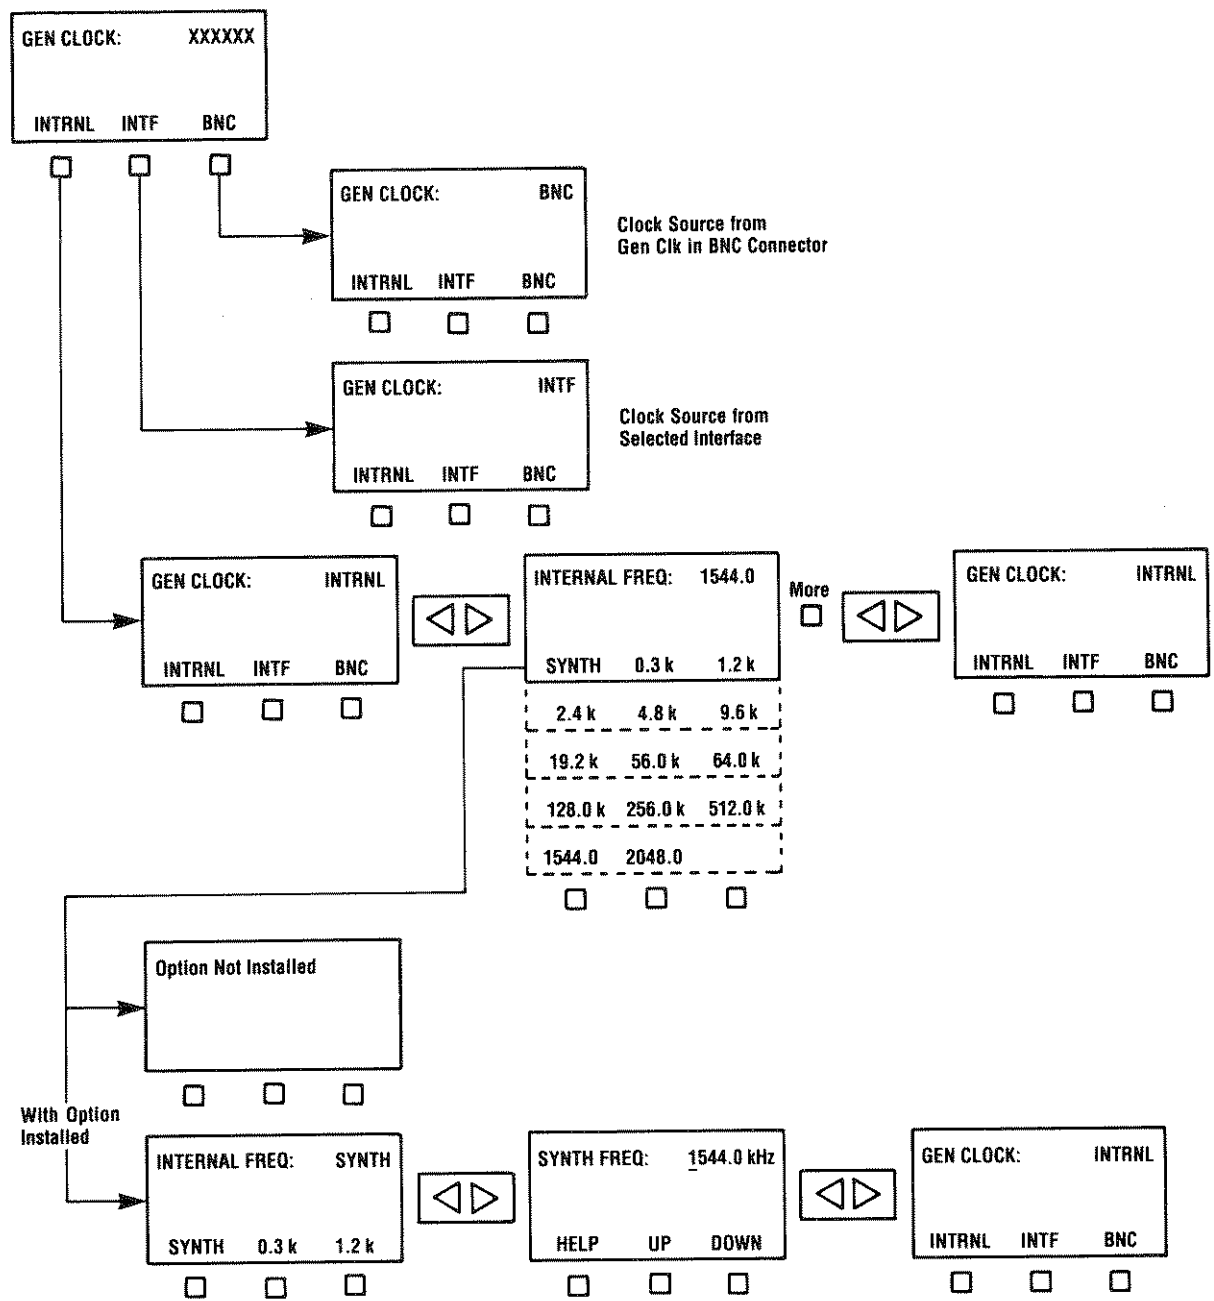

Figure 4-9
The GENERATOR CLOCK SETUP category, shown in Figure 4-9, controls the timing source and frequency of the mainframe generator clock. The generator clock is used as the timing source for transmitting test patterns at the required network data rate.
To select a timing source, select the GENERATOR CLOCK category with the SETUP CATEGORY switch (GENERATOR CLOCK LED illuminates), then press the appropriate softkey (see Figure 4-9). The selected timing source label appears in the display selection field.
The standard internal generator clock provides a set of fixed frequencies that are selectable through the INTERNAL FREQ menu (see Figure 4-9). The fixed frequencies, displayed in kHz, include: 300, 1200, 2400, 4800, and 9600 Hz; 19.2, 56.0, 64.0, 128.0, 256.0, and 512.0 kHz; and 1.544 and 2.048 MHz. To select a frequency:
- (1) Press the **INTRNL** softkey and SETUP SELECT switch to access the INTERNAL FREQ menu (see Figure 4-9).
- (2) Press the MORE key, if necessary, until the desired frequency appears.
- (3) Press the corresponding softkey to select the frequency. When the frequency softkey is pressed, the generator is automatically programmed with the selected frequency.